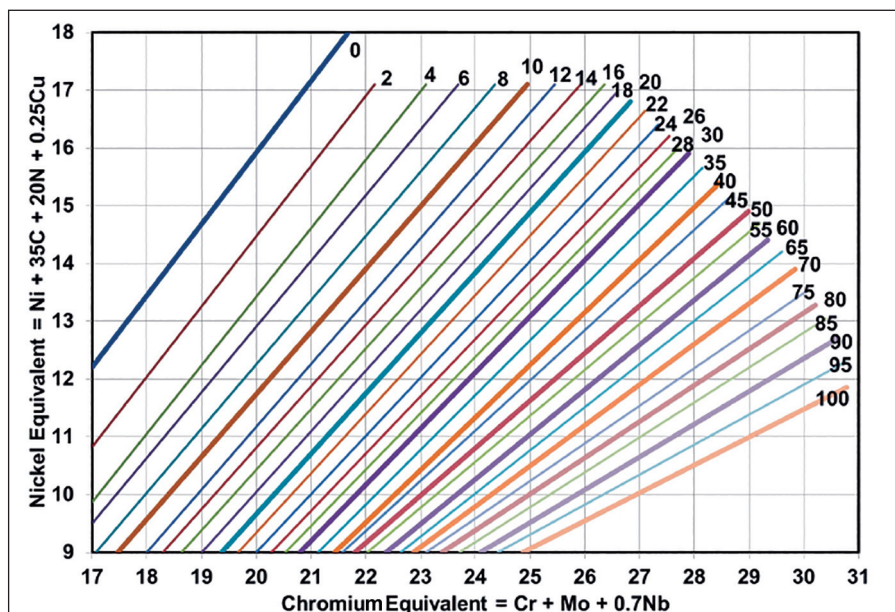

Fig. 1 — Pictured is a WRC-1992 diagram with a similar appearance to Fig. NB-2433.1-I in the ASME BPVC.
**A:** Figure 1 presents the WRC-1992 diagram in the way it appears in the American Society of Mechanical Engineers (ASME) *Boiler and Pressure Vessel Code* (BPVC) without solidification mode boundaries. It is noteworthy that Note (a) above seems to lump flux cored arc welding (FCAW) together with gas metal arc welding (GMAW), which is not ex-